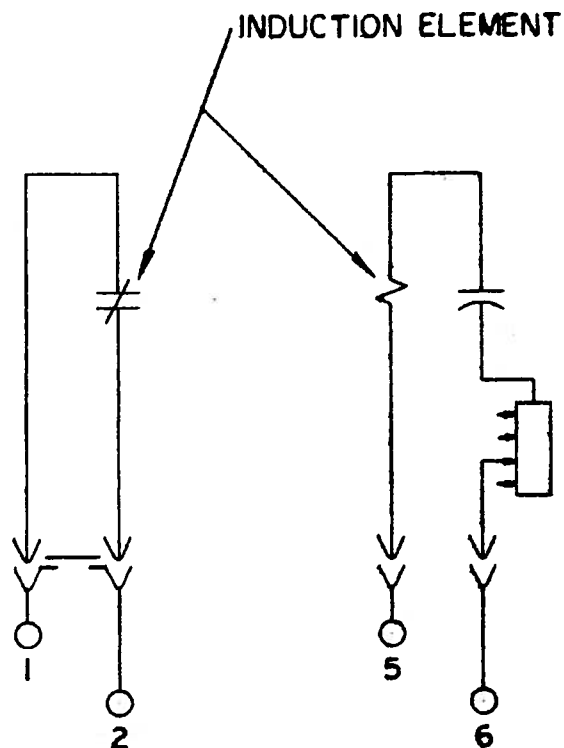

FIG. 1 (0227A7108-0) Internal Connections Diagram For Model IAV54K
1. The internal connections for this relay are shown in Figure 1 of this supplement.